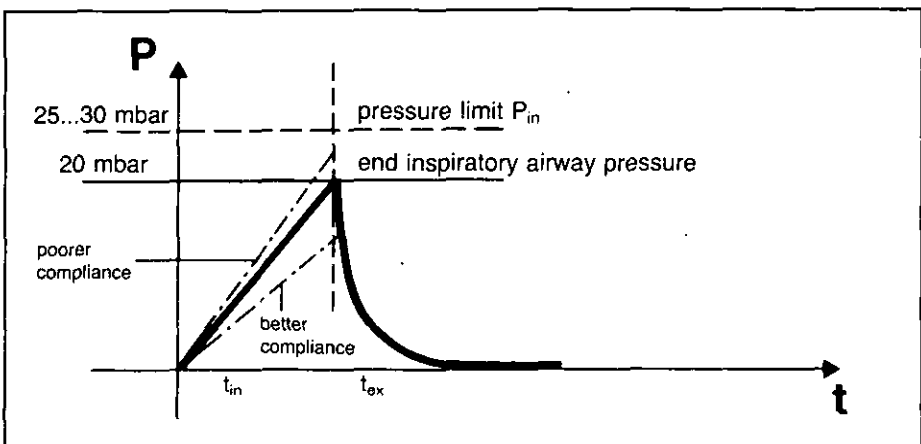

Fig. 6 Setting of the pressure limit P_{in} if changes in compliance of the lungs occur
The setting can be checked by pressing the key 12 "Manual Inspiration" (Fig. 6).